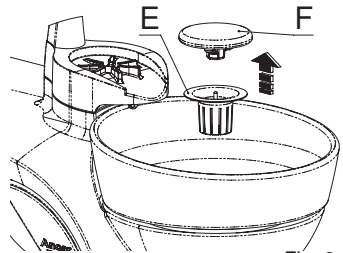

Fig. 9
To avoid splashes and the passing of solids, spittoon is fitted with filter (E) and cover piece (F) located in the drain of the spittoon (fig. 9).